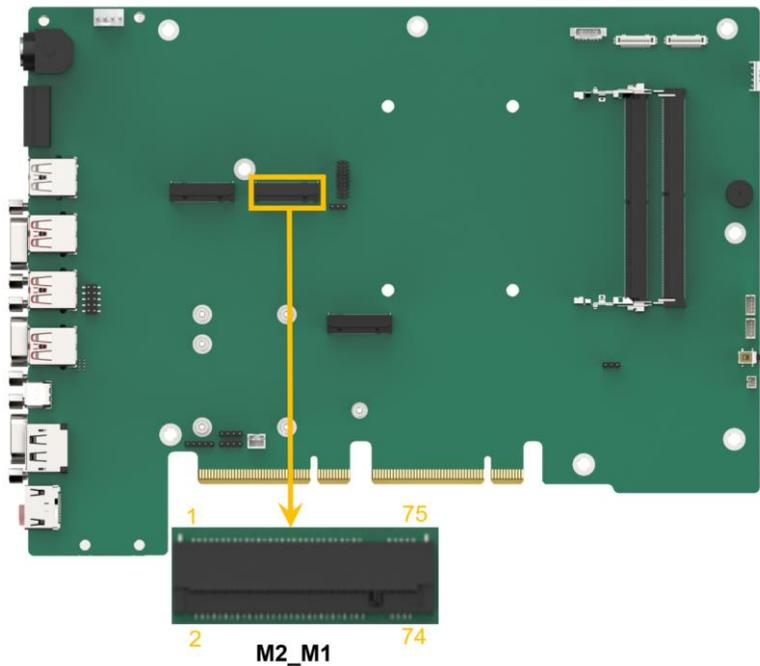

Figure 4-17: M.2 M-Key Slot Location
- CN Location:** See **Figure 4-17**